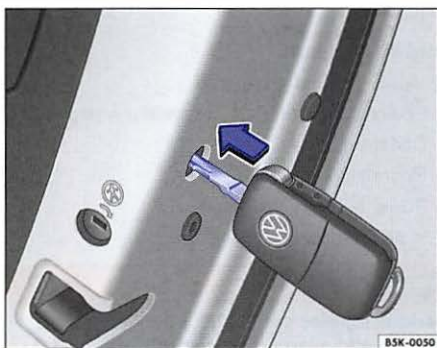

Fig. 148 On the front side of the right rear door: Manual vehicle locking with the key bit in the vehicle key.
- Insert the key bit horizontally into the opening and press the small colored lever forward ⇒ fig. 148.